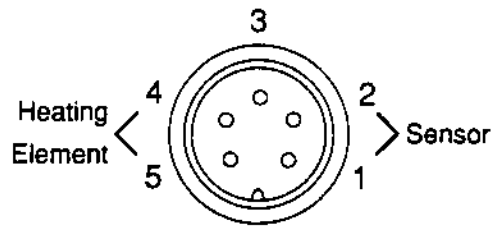

FIGURE 1.
- (1) Disconnect the connecting plug.
- (2) Measure the resistance value between pins 1 and 2 (the sensor). See Fig. 1. It should be between 43 Ω and 58 Ω .
- (3) Measure the resistance value between pins 4 and 5 (the heating element). See Fig. 1. It should be between 2.5 Ω and 3.5 Ω .